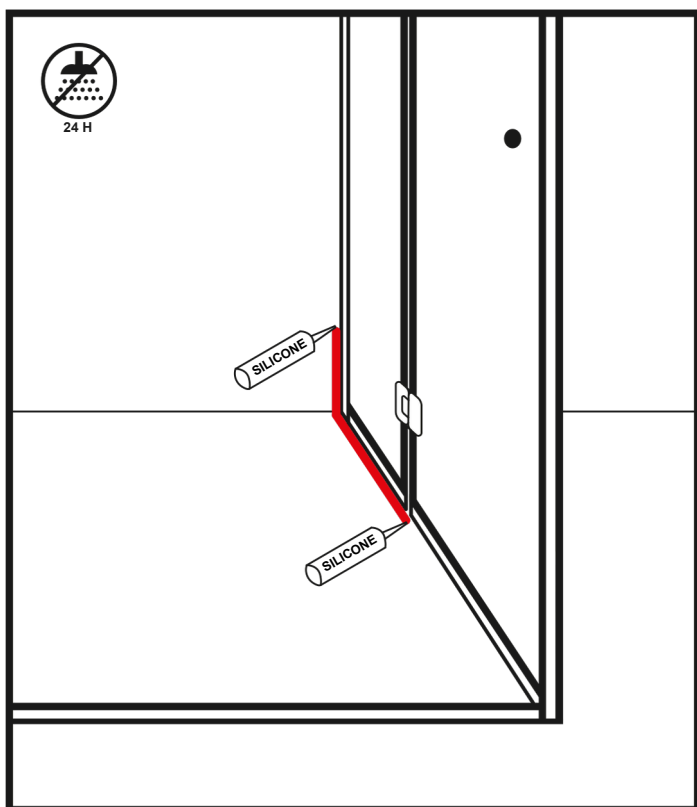
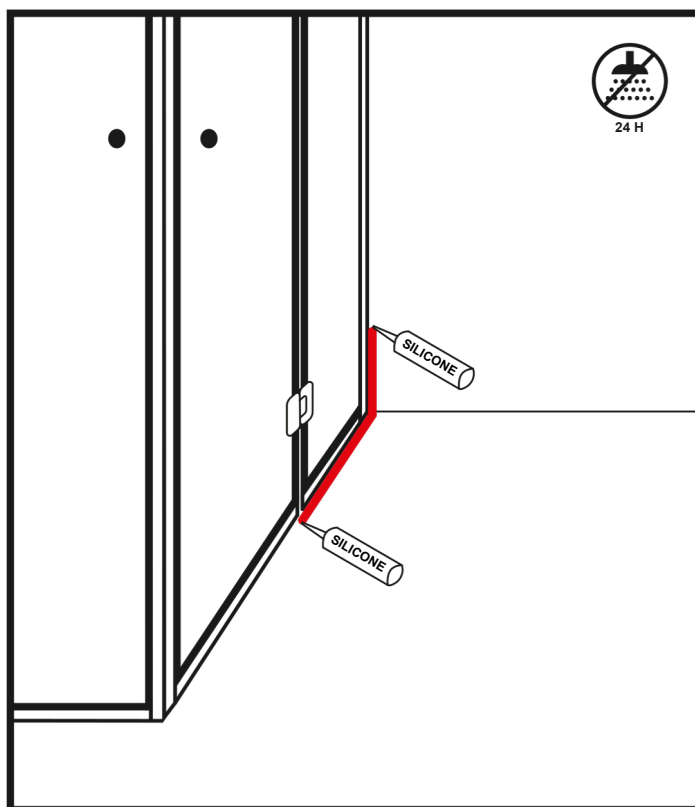
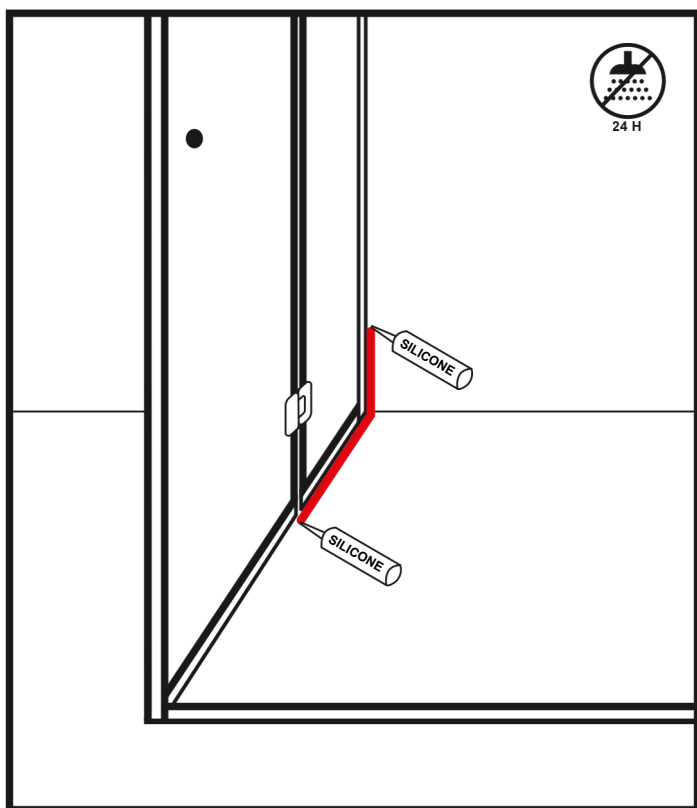
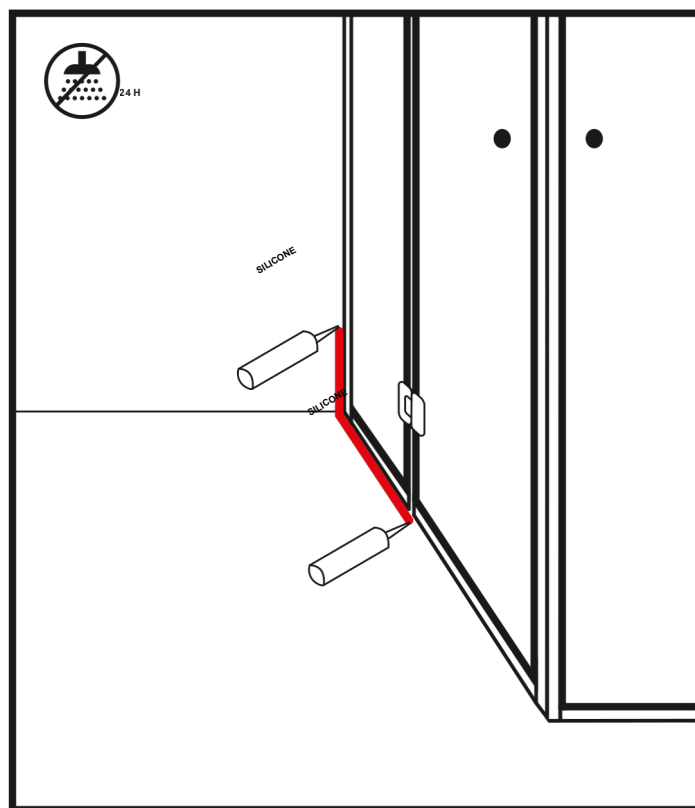

Figure 11
Figure 12
Figure 13
Figure 14
43. Apply an even bead of silicone to the edges of the U-profile on the inside (Figure 11 and Figure 13) and outside (Figure 12 and Figure 14) of the shower enclosure.